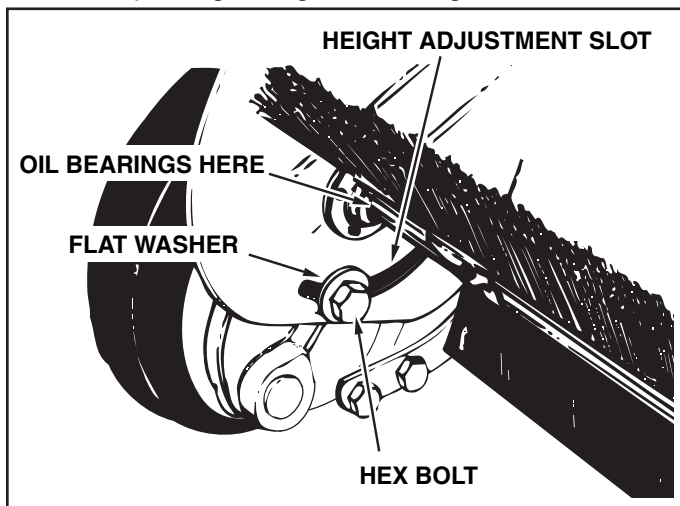

FIGURE 24
- Lubricate the brush shaft bearing twice a year with a few drops of light weight oil. See figure 24.